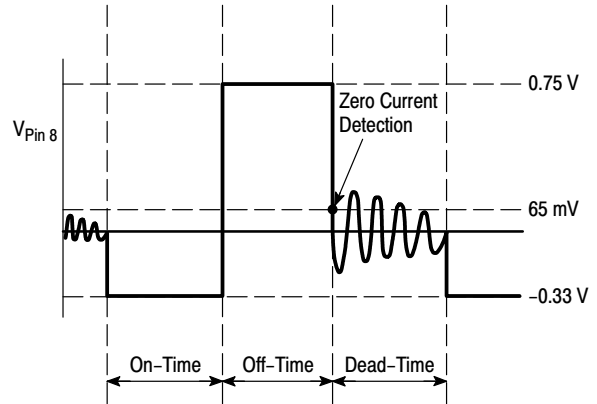

Figure 37. Demagnetization Detection
- equal to zero for the dead-time with generally some ringing (refer to Figure 37).